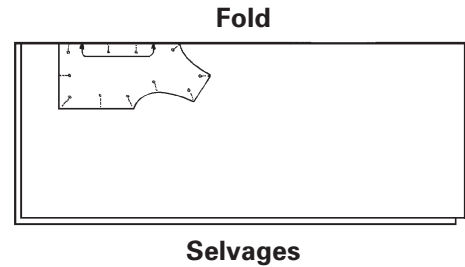

Fig. 6-4
6. Pin each pattern piece securely to the fabric, checking grainlines. Start with large pattern pieces placed on the fold. Pin securely, smoothing out the pattern as you go. (Fig. 6-4)